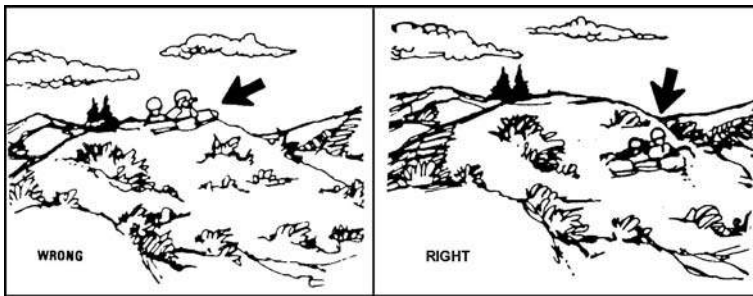

Figure 071-326-5705-1. OP position
- (1) Maximum observation of the desired area (specified by the platoon leader).
- (2) Cover and concealment for the occupants of the OP.
- (3) Concealed routes to and from the OP.
- b. Locate the OP on or near the military crest of a hill, if possible. Avoid topographical crests because of the chance of being skylined. When observation is restricted by the terrain, establishing the OP well down the forward slope might be appropriate (figure 071-326-5705-1).